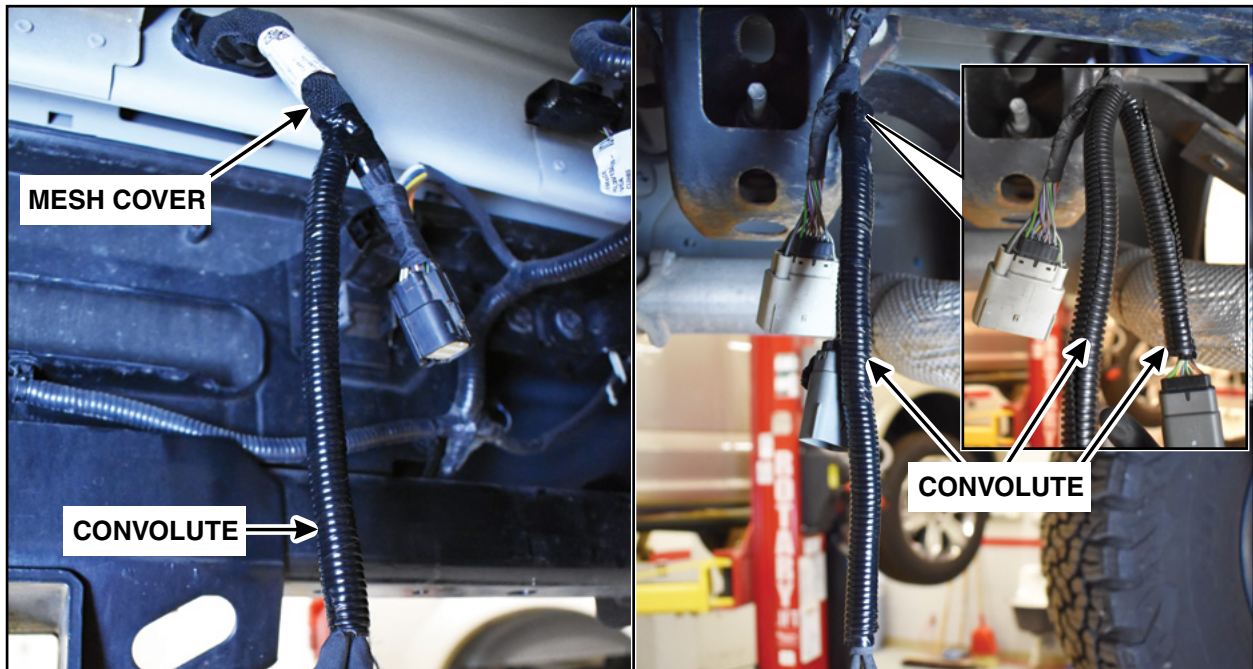

FIGURE 77
23. Position back the mesh cover. Cut to fit the *new* convolute and properly cover any exposed wiring then secure using electrical tape. See Figure 77.